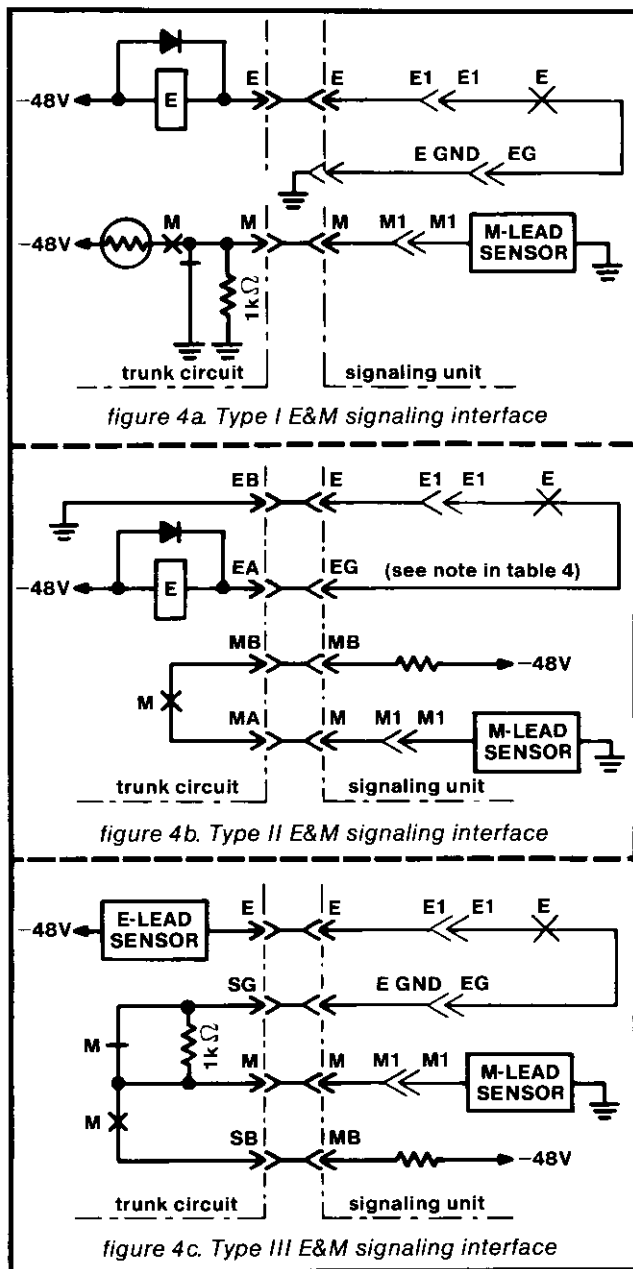

figure 4. E&amp;M signaling interfaces
2.08 The 6962/A accommodates either a Type I (single-lead) or a Type II or III (looped-signaling-lead) E&M interface. The conventional Type I interface is often used in electromechanical-switching-system (e.g., SxS) environments, while the newer Type II and III interfaces are often used in electronic-switching-system environments. Figure 4 shows the connections required for Type I, II, and III E&M interfaces.